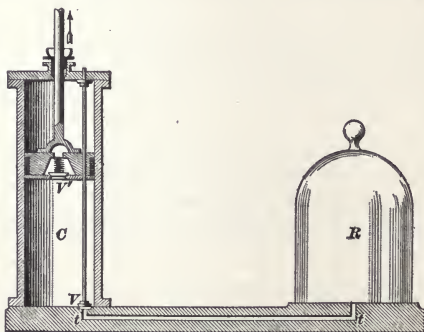
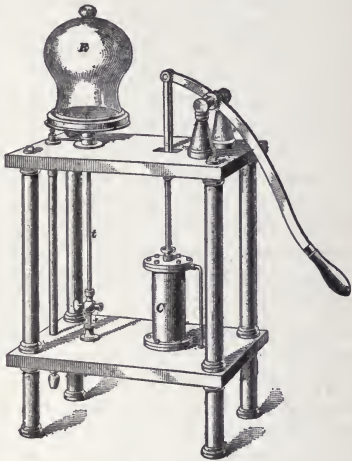

FIG. 19.
FIG. 20.
shown in Fig. 19 and the complete instrument in Fig. 20. The closed vessel *R* is called the **receiver**, and the space
The piston is now pushed down, the valve *V* closes, the valve *V'* opens, and the air in *C* escapes. The lower valve *V* is sometimes supported, as shown in Fig. 19, by a metal rod passing through the piston and fitting it somewhat tightly. When the piston is raised or lowered, this rod moves with it. A button near the upper end of the rod confines its motion within very narrow limits, the piston sliding upon the rod during the greater part of the journey. In the complete form of the instrument shown
in Fig. 20, communication between receiver and pump is made by means of the tube t .
61. Degrees and Limits of Exhaustion.—Suppose that the volume of R and t together is four times that of C , Fig. 19, and that there are, say, 200 grains of air in R and t , and 50 grains in C when the piston is at the top of the cylinder. At the end of the first stroke, when the piston is again at the top, 50 grains of air in the cylinder C will have been removed, and the 200 grains in R and t will occupy the space R , t , and C . The ratio between the sum of the spaces R and t and the total space $R + t + C$ is $\frac{4}{5}$; hence, $200 \times \frac{4}{5} = 160$ grains = the weight of air in R and t after the first stroke. After the second stroke, the weight of the air in R and t would be $(200 \times \frac{4}{5}) \times \frac{4}{5} = 200 \times (\frac{4}{5})^2 = 200 \times \frac{16}{25} = 128$ grains. At the end of the third stroke, the weight would be $[200 \times (\frac{4}{5})^2] \times \frac{4}{5} = 200 \times (\frac{4}{5})^3 = 200 \times \frac{64}{125} = 102.4$ grains. At the end of n strokes the weight would be $200 \times (\frac{4}{5})^n$. It is evident that *it is impossible to remove all the air that is contained in R and t by this method.* It requires an exceedingly good air pump to reduce the tension of the air in R to $\frac{1}{30}$ inch of mercury. When the air has become so rarefied as this, the valve V' will not lift, and, consequently, no more air can be exhausted.